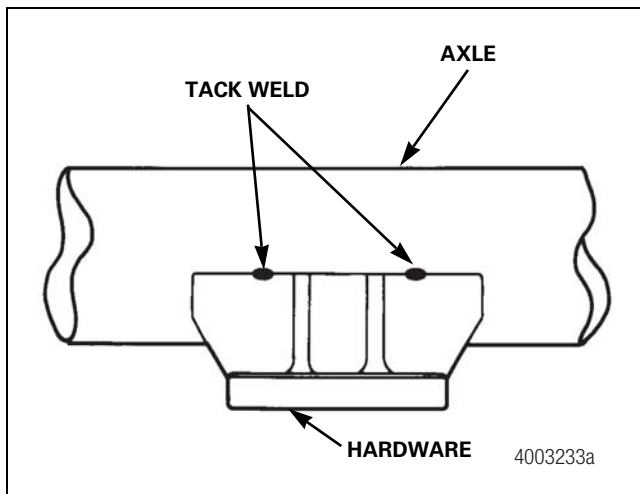

Figure 7.6
- Prior to applying final welds, hardware should be tack welded to the axle following recommendations provided by the component manufacturer. This will help minimize both axle distortion and residual stresses caused by final welds. After tack welding, clean up any weld slag, then fuse the tack welds into the final welds. Figure 7.6.